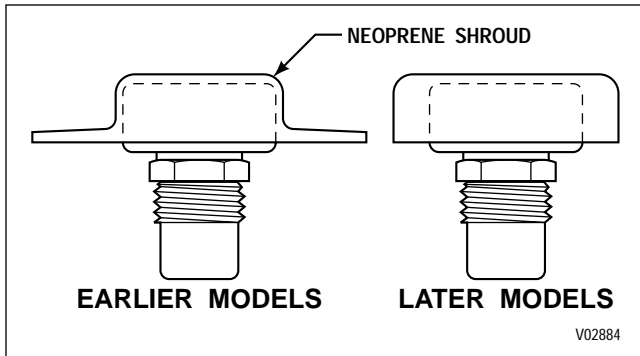

Figure 3-7. Breather Configurations
(2) Earlier model breathers should be equipped with a neoprene shroud (Figure 3-7). If the breather is not so equipped or if the present shroud is damaged, install a new shroud.